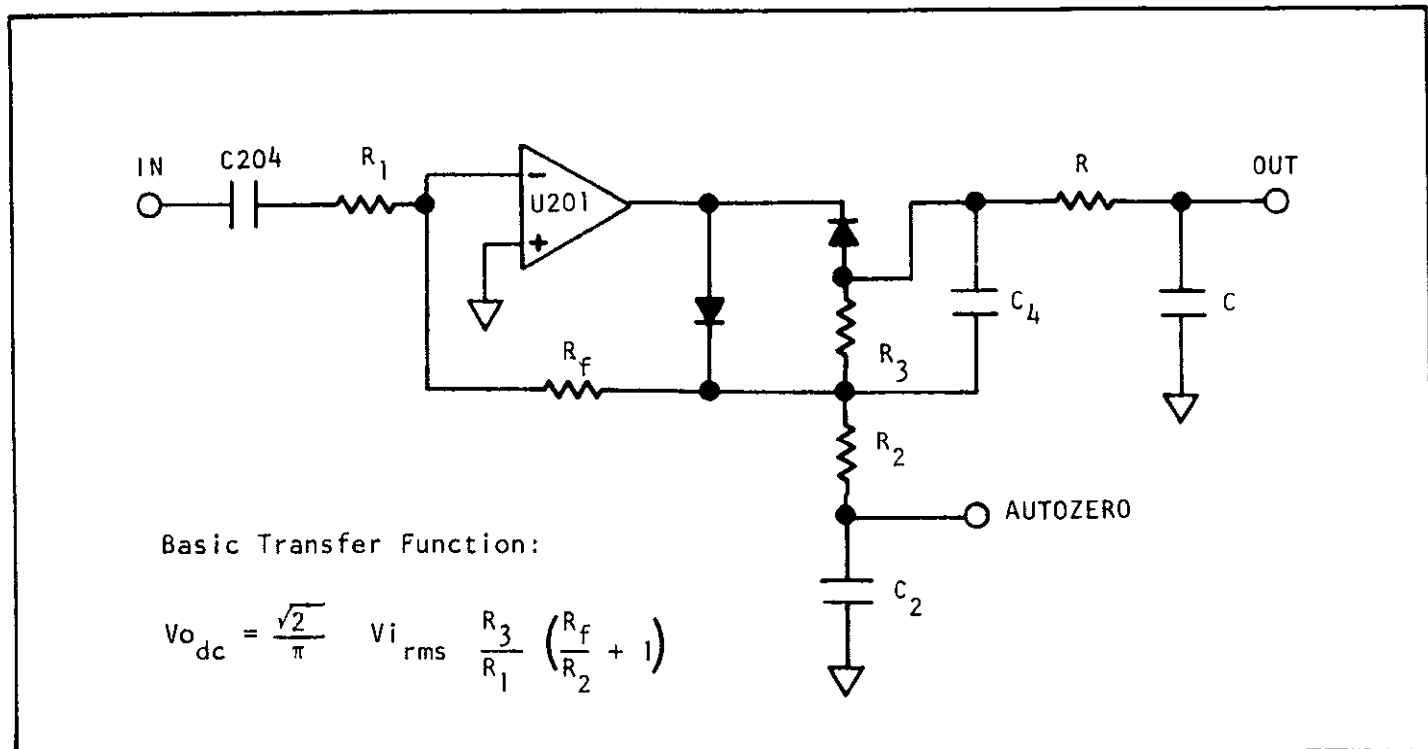

FIGURE 5-4. Simplified Schematic of AC/DC Converter.
1) The basic transfer function of the AC/DC converter is as shown on the simplified schematic (Figure 5-4). The resistor values were selected so the $1V_{acrms} \rightarrow -1V_{dc}$. Above 3 volts, feedback resistance (R_f) is reduced to keep the output always less than $-3V_{dc}$. The dc output is a half-wave rectified sine wave, and the converter is average responding, calibrated to the rms value of a sine wave.